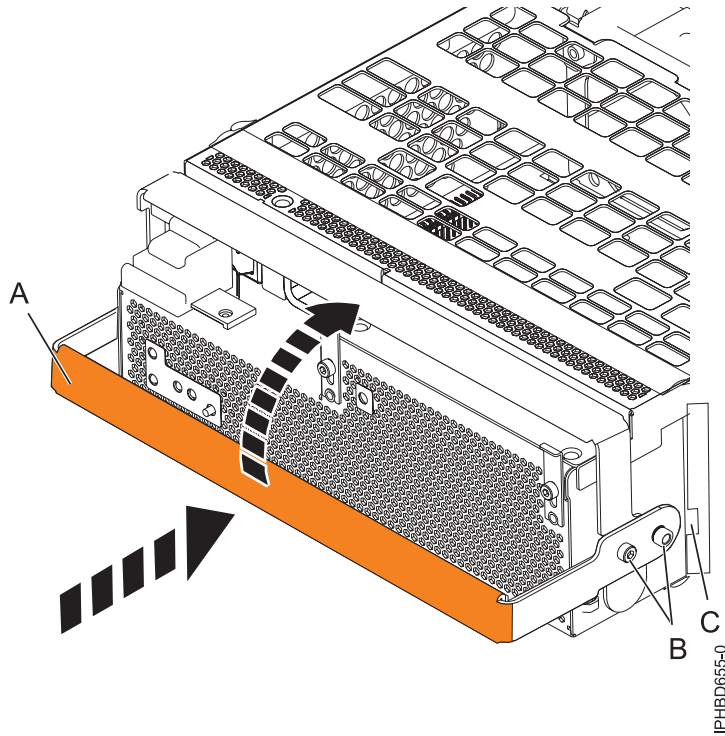

Figure 92. Replacing a power supply
11. To replace the power supply, with the locking handle (A) in the open position, push the power supply into the expansion unit as shown in Figure 92 on page 124.
12. Close the locking handle (A) until the power supply locks into position.